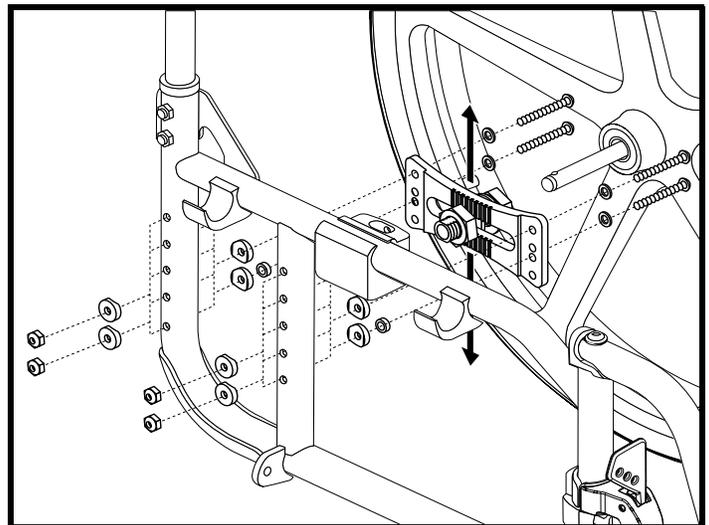

Figure 17. Drive Wheel Height Adjustment
2. Remove the hardware that fastens the axle bracket to the frame. **See figure 17.**